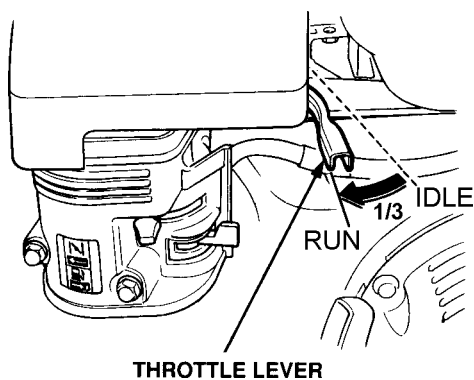

Figure 7. Throttle Lever (1/3 Start Position)
2. Move the **throttle lever** (Figure 7) away from the slow position, about 1/3 of the way toward the fast position.